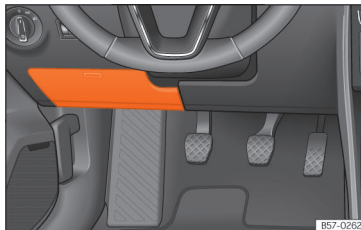

Fig. 105 On the dashboard on the driver side (left guide): lid of the fuse box.
- *Open*: fold the cover down »» Fig. 105.